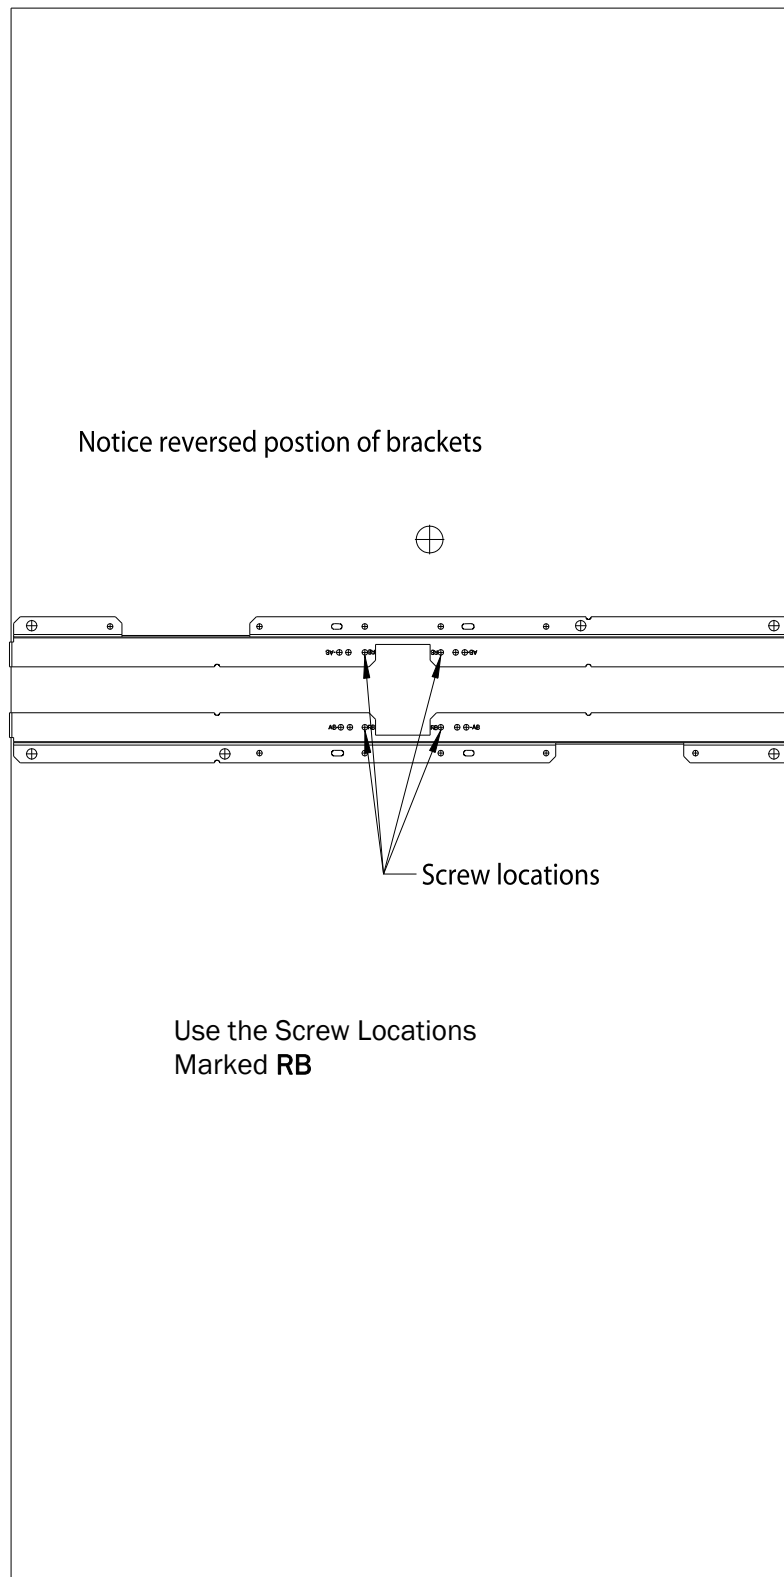

Figure 2-24: RA Below Ceiling Tile Mounting Rail Screw Locations
4. Mark the location of the "RB" screw holes in the mounting rails on the ceiling tile where the holes will be drilled through the tile as shown in Figure 2-24. Drill four 0.25-inch (6 mm) diameter holes in the ceiling tile.
8. Insert the four (4) M3-.5 x 30 lobe screws into the RA mounting rail holes, through the ceiling tile, through the provided plastic spacers, and into the mating holes in the back of the wall plate.